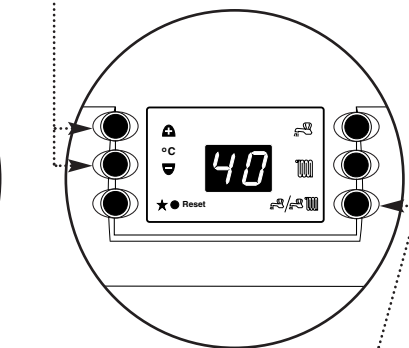
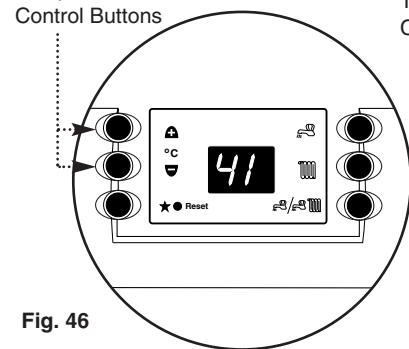

Fig. 45
Fig. 46
3. Repeatedly press the Summer/Winter Mode Button marked (  ) until the display shows "40" (Fig. 45). The "4" indicates that the installer parameter for filling the system has been selected. The "0" indicates that the installer parameter for filling the system is switched off. Press the "+" Temperature Control Button so that the display shows "41" (Fig. 46). The "1" indicates that the installer parameter for filling the system is switched on. The diverter valve will now move to the central heating position and stay there until reset as below. Purge through manual air vent on boiler and radiators, ensure auto air vent is open and manually bleed pump before continuing with steps 4 and 5 (**NOTE:** The boiler will not fire until the steps 4 and 5 have been carried out).
5. Repeatedly press the Summer/Winter Mode Button marked (  ) until the display shows "41" (Fig. 46). The "4" indicates that the installer parameter for filling the system has been selected. The "1" indicates that the installer parameter for filling the system is switched on. Press the "-" Temperature Control Button so that the display shows "40" (Fig. 45). The "0" indicates that the installer parameter for filling the system is switched off. The diverter valve will now return to normal operation. **The display will revert to normal operation 1 minute after the parameter has been set.**